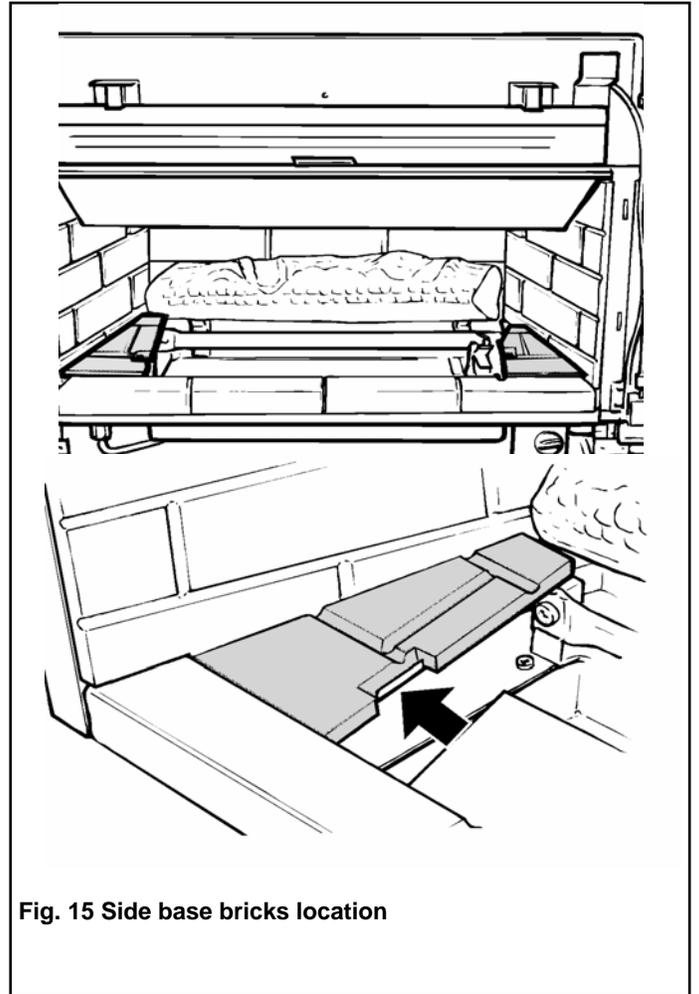

Fig. 15 Side base bricks location
5.4.5 Install the side base bricks. These bricks are left and right handed. Place the side base bricks on the firebox side supports. The recess in the inside edge of each brick should locate behind the vertical metal edge of the each side support (fig. 15).